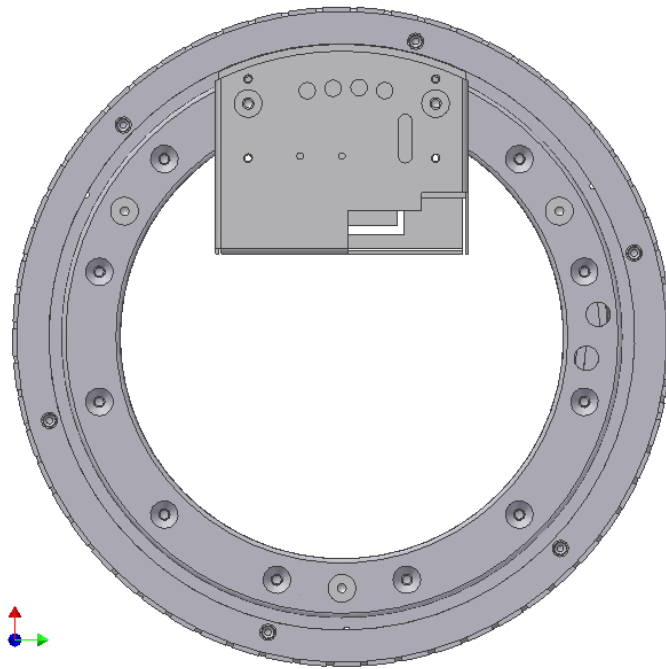

Figure 32: photometer below layer
- Open instrument on lateral side, below photometer unit there are 4 screw for gain trimming, Figure 32 .